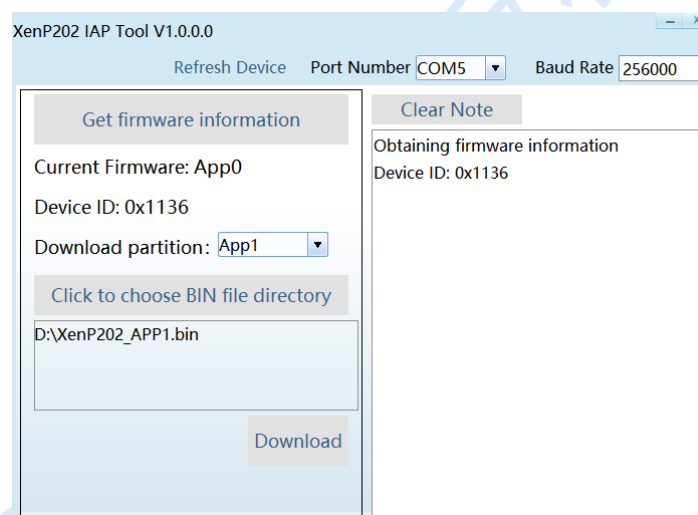

Figure 4-16 Firmware information
Step 4: Click the **Get firmware information** button, the GUI will read and display the device ID and the current firmware information of the module. The XenP202TT firmware can run in either partition APP0 or APP1, while it is running in partition APP0, the download partition should be APP1, and vice versa, an example is shown in Figure 4-16;